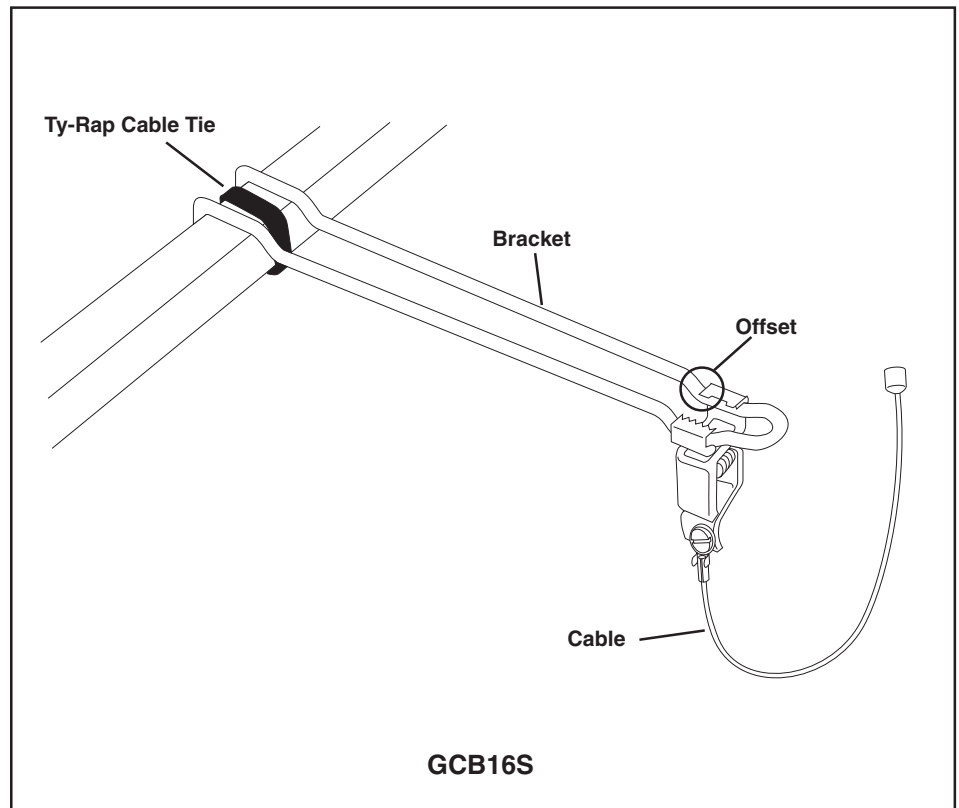

Fig. 1
2. Attach the bracket approximately in the middle of one of the end members. Tie the ty-rap cable around the end member and between the bracket wires. Cut off the excess cable tie (Fig. 1).